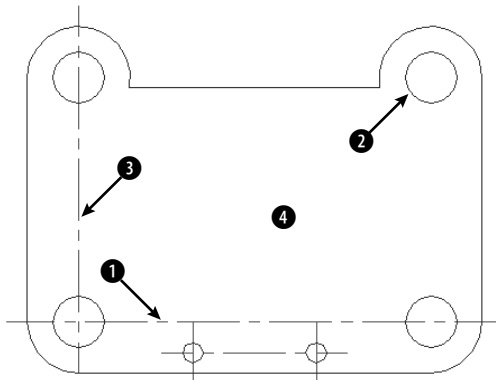

**Figure 10-9:** A tension arm for a commercial dryer.
2. Save the file as ab10-03.dwg in your AutoCAD Bible folder. It looks like Figure 10-9. Set a running object snap for center, and turn on OSNAP.
Pick ① in Figure 10-9.